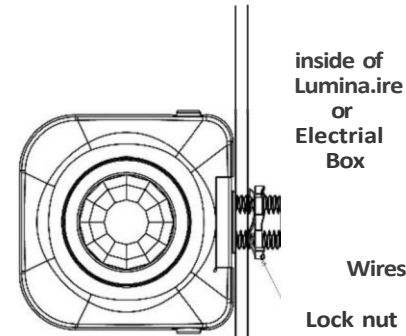

Fig.3A
- 2.Slide the lock-nut over the wires and thread clockwise on to the threaded nipple to secure the sensor firmly in place making sure the lens is orientated towards the area to be monitored(field-of-view).(refer to Fig.3A)